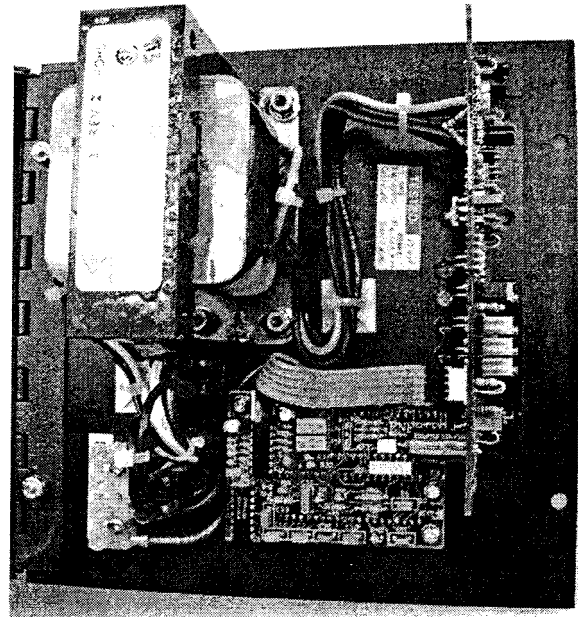

Figure 1 – Back view of the front panel of a model with a display module and transformer integrated on the panel.
3. Connect the probes of a multimeter calibrated such as the negative on the pin (-) and the positive on the pin (+) of the HX card (figure 1).